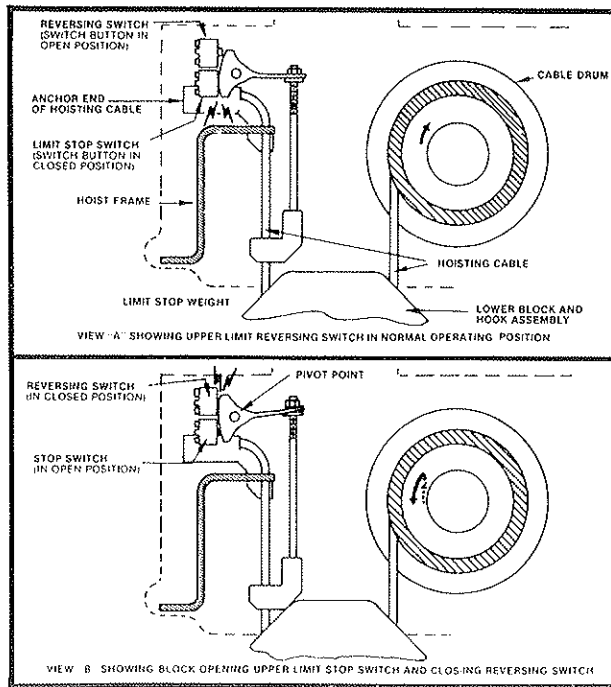

Figure 2-2. Schematic Diagrams of Upper Limit Stop Arrangement.
- (1) A block operated upper limit stop (Figure 2-2) is furnished as standard equipment on most CM Apollo electric hoists (some long lift and all deck mounted hoists have geared type limit switches as standard). This limit stop is factory set to stop lower block at safest high position, guarding against overtravel and possible damage to hoist. No adjustment can be made. However, the hoist should be tested by jogging lower block against
limit weight (Figure 2-2) to be sure the limit switch is functioning properly. When lower block lifts limit weight, hoist will automatically stop. If lower block coasts through the stop limit switch when lifting at maximum height, in most CM Apollo hoists a reversing switch will automatically close and reverse direction of motion to lowering.